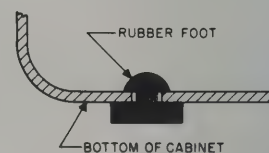

Figure 11
- (✓) 44. Mount the four rubber feet to the cabinet as illustrated in Figure 11